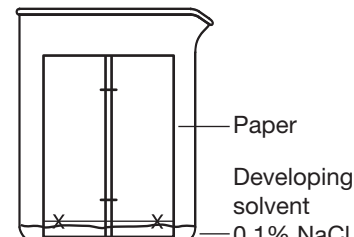

Figure 5.
10. Remove the watch glass from the beaker and carefully place the paper cylinder into the chamber with the sample end down (as shown in Figure 5). Do not get any solvent on the upper portion of the chromatography paper. The sample spots must remain above the level of the solvent. If the solvent level is too high, the samples will dissolve into the solvent.